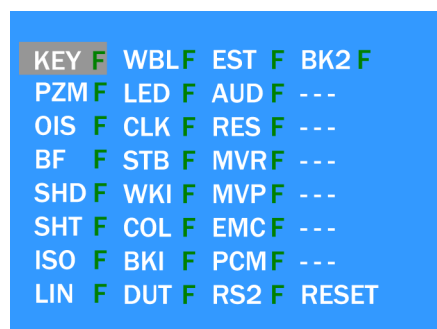

Fig.3-2
1. After pressing the [DISPLAY] button, the LCD monitor displays the Flag status screen (Refer to Fig.3-2)